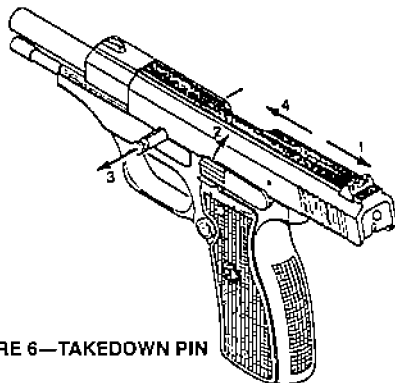

FIGURE 6—TAKEDOWN PIN
1. Ensure magazine is removed and pistol is **NOT** loaded. Be sure you are familiar with the Safety Instructions in Section 3. Now see Figure 6.